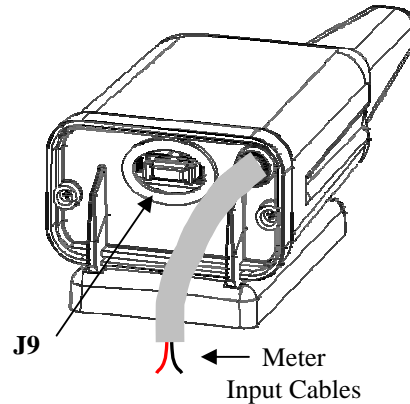

Figure 1: MT150W™ View
4. Insert the terminator to J9 (See figure 1)
MT150W™ has one connector (see Figure 1).
1. **J9:** The 10-pin programming jack is a serial port to connect a PC or a FTU (see Figure 1).